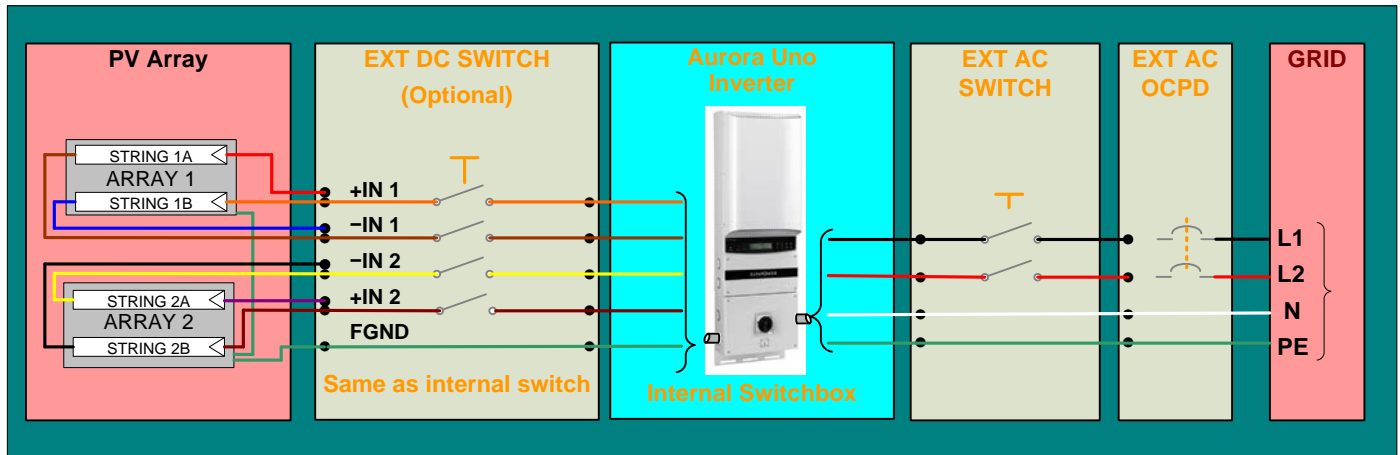

Figure 2:05: Electrical Connection Diagram PVI-3.0/3.6/4.2-OUTD-S-US
- Relevant wiring connections are shown in Figure 2:03 and Figure 2:04.
1. Refer to the photo of Figure 2:03 and locate the designated entry locations for the conduits from the DC array and to the AC grid.